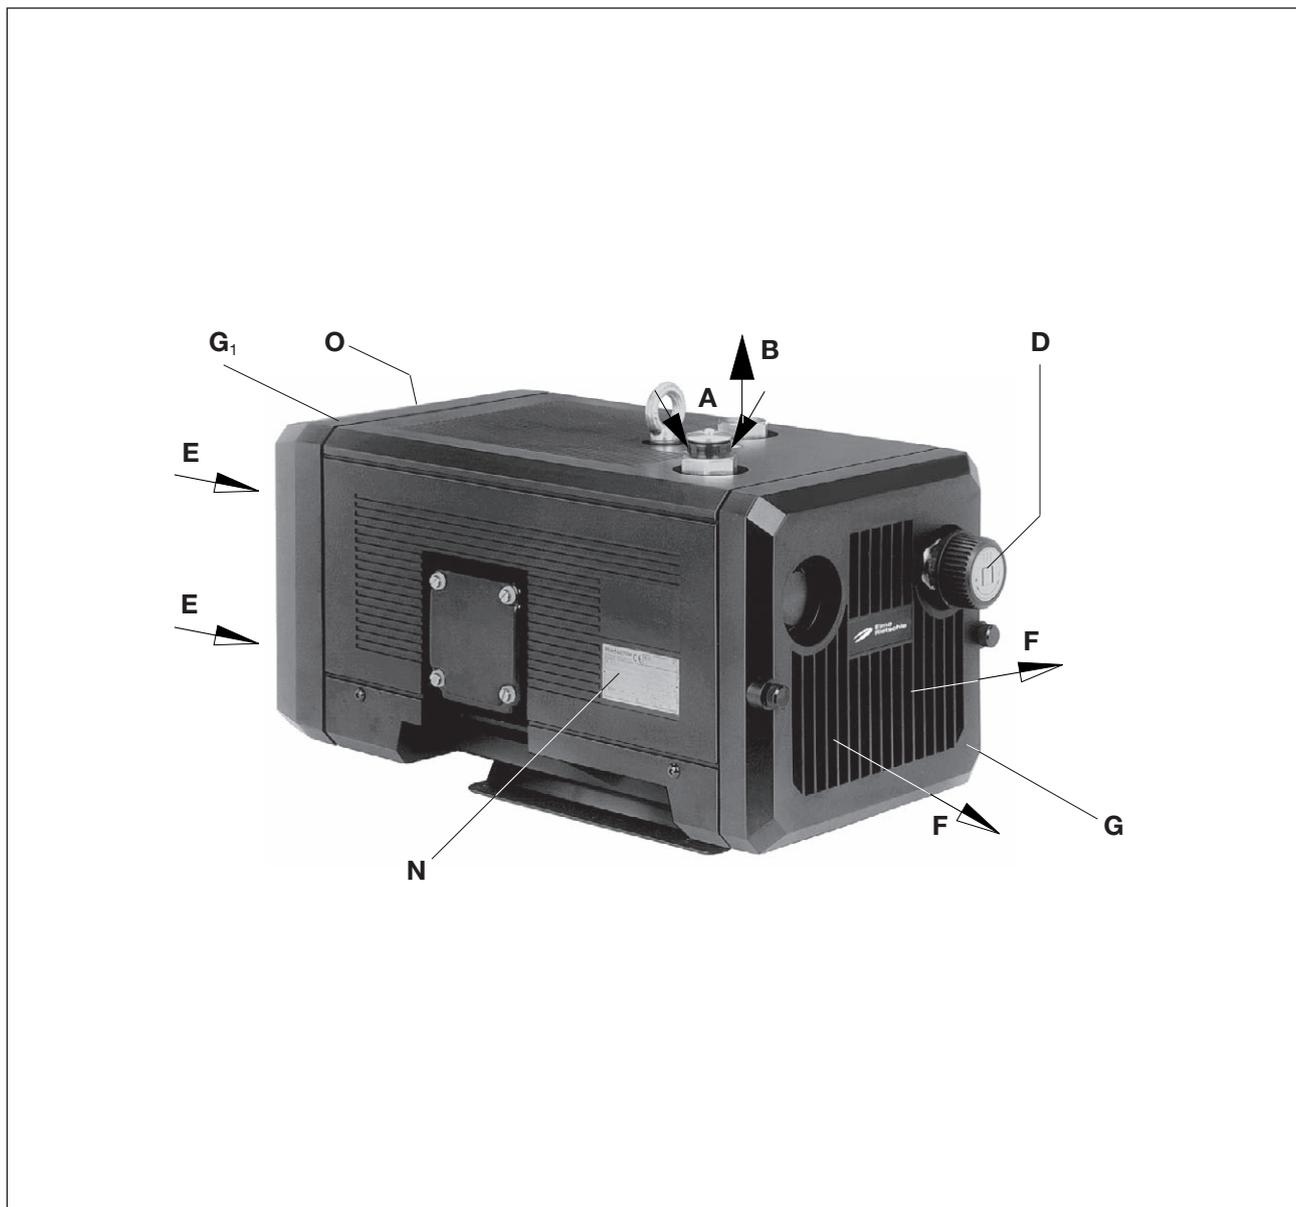

Fig. 2 V-DTN compressor
The pressure regulating valve (Fig. 2/D) is used to set the pressure to the required values with an upper limit.
These dry running rotary vane compressors, V-DTN 6 to V-DTN 40, are suitable for creating excess pressure between 0 and the maximum limit (in bars) given on the data plate (Fig. 2/N). Constant operation is permissible.
To remove the outlet grid (Fig. 2/G), the inlet grating (Fig. 2/G₁) and the housing lid (b) at least 30 cm of space must be available for maintenance work. You must also ensure that the cooling air inlets (Fig. 2/E) and cooling air outlets (Fig. 2/F) must be at least 10 cm away from the nearest wall (outgoing cooling air must not be sucked in again).
- a) Pressure connection at (Fig. 2/B).
The required pressure ranges can be set with the pressure regulating valve (Fig. 2/D) as shown on the symbol plate affixed to the rotary knob.
- a) The electrical motor data can be found on the data plate (Fig. 2/N) or the motor data plate. The motors comply with DIN EN 60034 and are in protection class IP 55 and insulation class F. The appropriate connection diagram is located in the motor's terminal box (not for the plug connection version). The motor data must be compared with the data of the existing mains network (current type, voltage, network frequency, permitted current value).
- ▷ The drive shaft direction of rotation is shown by the rotation direction arrow (Fig. 2/O).